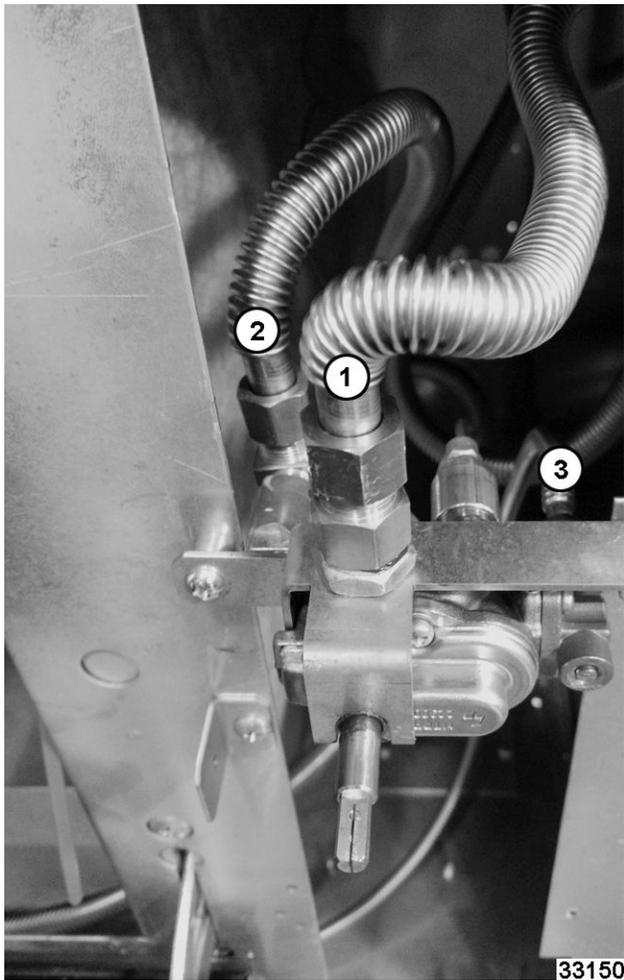

Fig. 92
- Main gas supply (1, Fig. 92).
- Gas flex line (2, Fig. 92) out to burner.
- Gas flex line (3, Fig. 92) out to pilot.